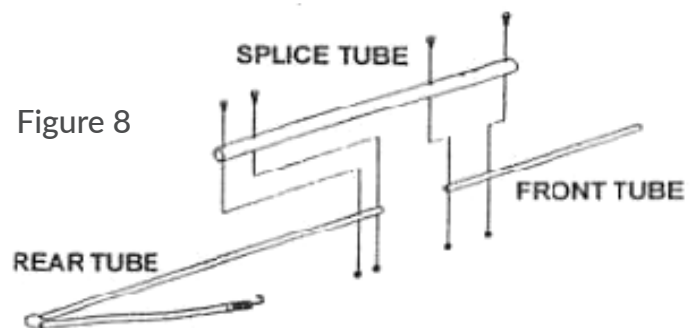

Figure 8
9. Locate Splice Tube, four 5/16-18 x 1.75" Hex Head Screws and four 5/16-18 lock Nuts and attach the front and rear tubes. Use the holes shown (See Figure 8). Torque the fasteners to 20 Nm.